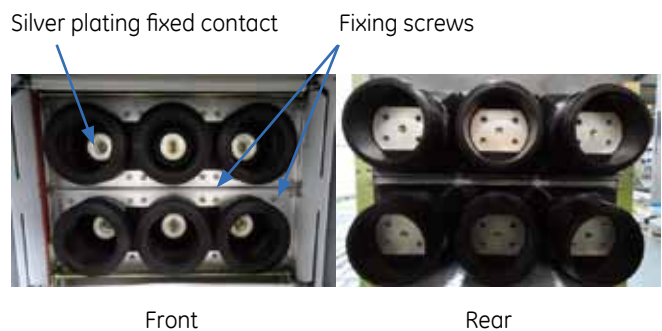

Figure 6/3: Fixed contact and spout bushings
- Remove four fixing screws (M12) of the spout and then the spout can be removed (see figure 6/3)